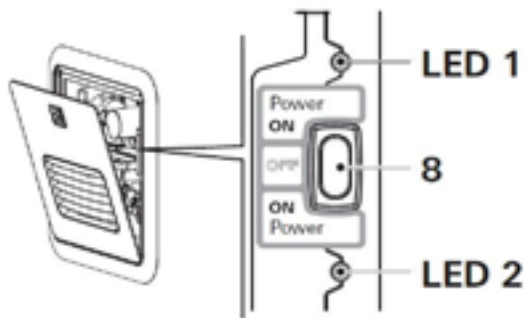

Fig. 8
2. To switch on the appliance, switch the POWER switch (Fig. 8 – 8) to one of the two “ON” positions.
Both ON positions on the POWER switch have the same function. Choose your preferred position. When the green power ON LED 1 (Fig. 8 – LED 1) is lit, the appliance is switched on. If the red error code LED 2 (Fig. 8 – LED 2) is lit / flashes, there is a fault or warning (refer to “APPENDIX A – Error Codes” in manufacturers booklet).
3. Switch off the appliance at the POWER switch (Fig. 8).
- The green Power-ON LED 1 (Fig. 8) extinguishes.